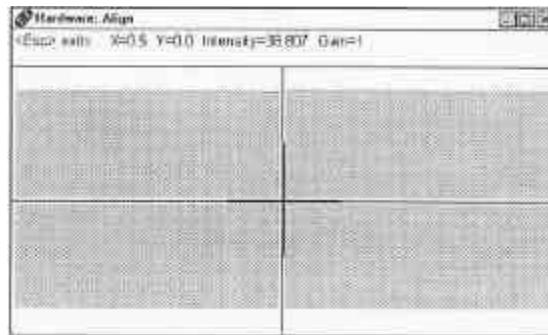

Figure 3. Proper Sample Alignment
- h. The alignment screen in Figure 3 shows proper alignment of the beam. The cross hair is less than ± 1 on each X and Y scale. The gain is at 1.